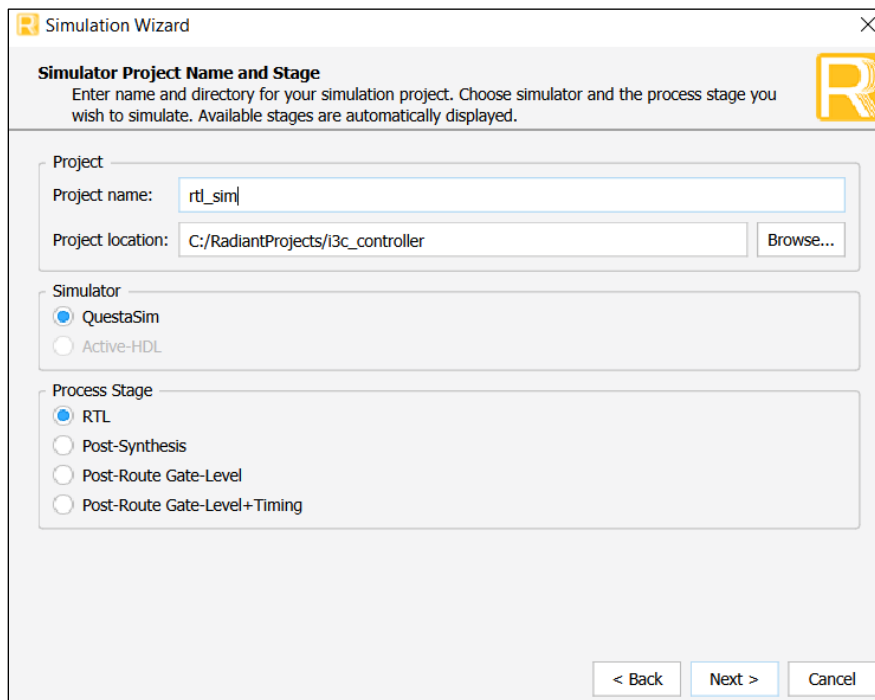

Figure 7.4. Simulation Wizard
1. Click the  button located on the **Toolbar** to initiate the **Simulation Wizard** shown in Figure 7.4.